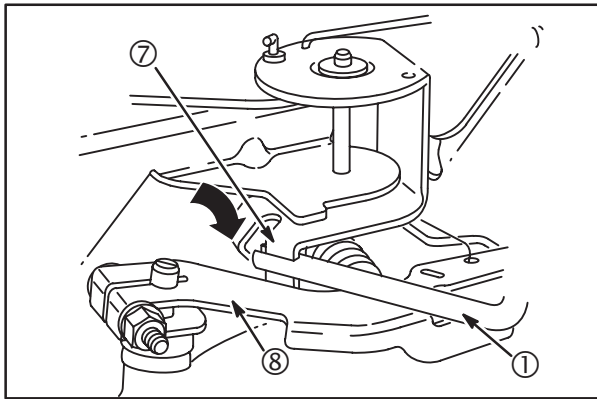

Fig. 44
7. With equipment control lever in SLOW position and engine running at governed idle RPM, use Tang Bender #19352 (1), and bend throttle restrictor tang (7) so that tang just contacts governor lever (8), **Fig. 44**.